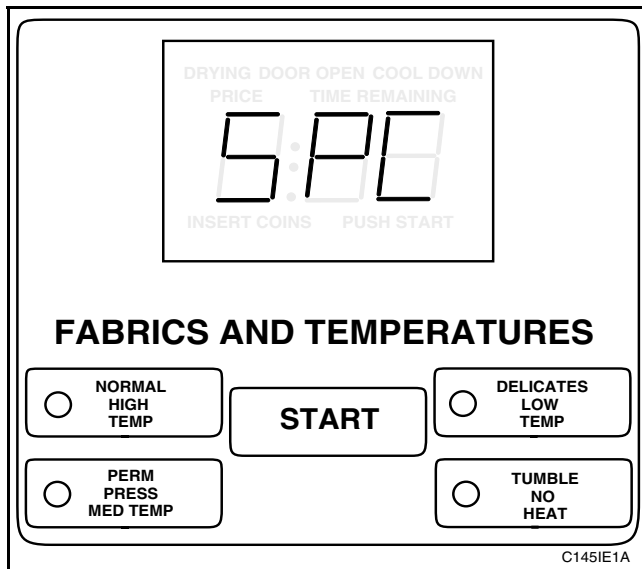

Figure 102
3. While pressing and holding the HIGH TEMP pad with one hand, press the MED TEMP pad with the other hand. The VFD will show "SPC," *Figure 102*.